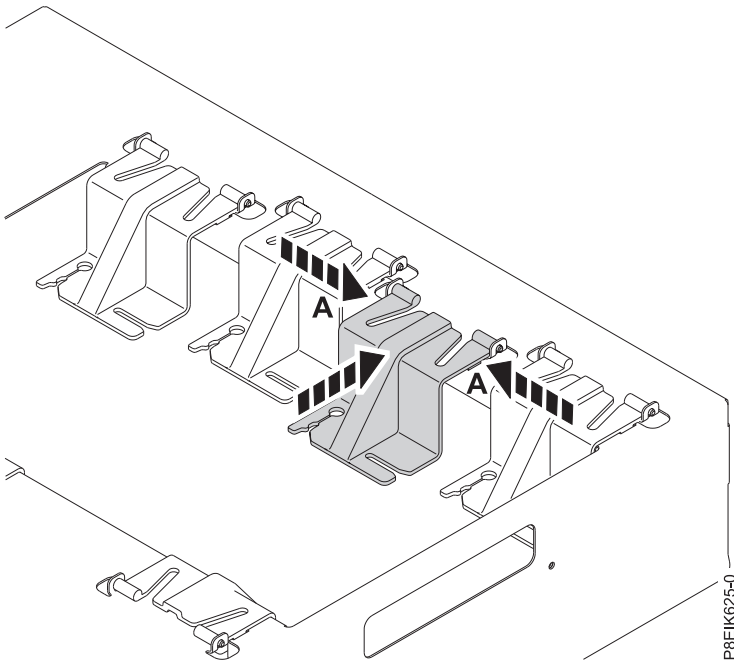

Figure 25. Replacing the holder back onto the carrier
d. Pinch the holder at points (A) and replace it onto the carrier as shown in Figure 25 on page 20.